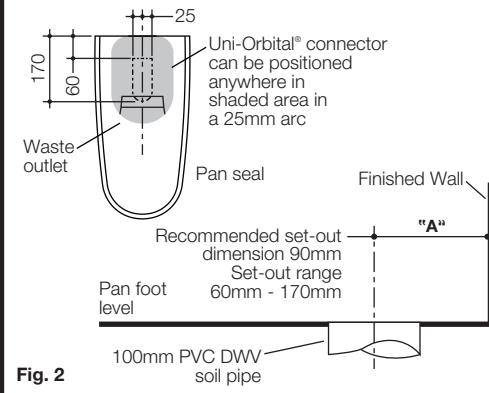
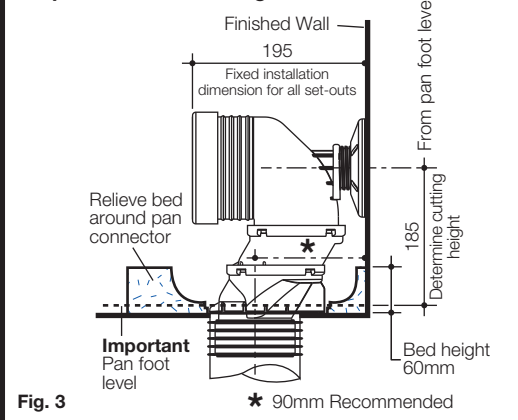
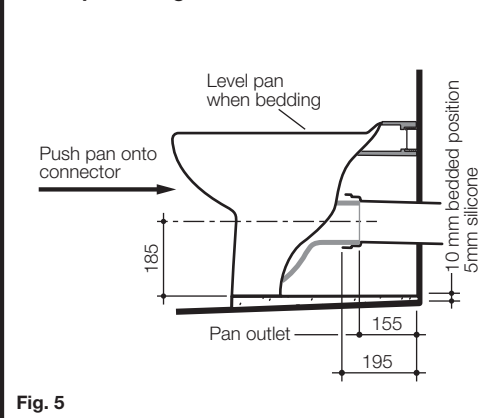

Fig. 2
Fig. 3
Fig. 5
- 2- Determine set-out "A" of existing pan connector, as detailed in Fig. 2. Set-out range 60mm - 170mm. Recommended set-out 90mm, as detailed in Fig. 3. For 'P' trap installation see Fig. 5.
- 4- Prepare bedding sand cement mixture 3:1 to depth of 60mm as detailed in Fig. 3.